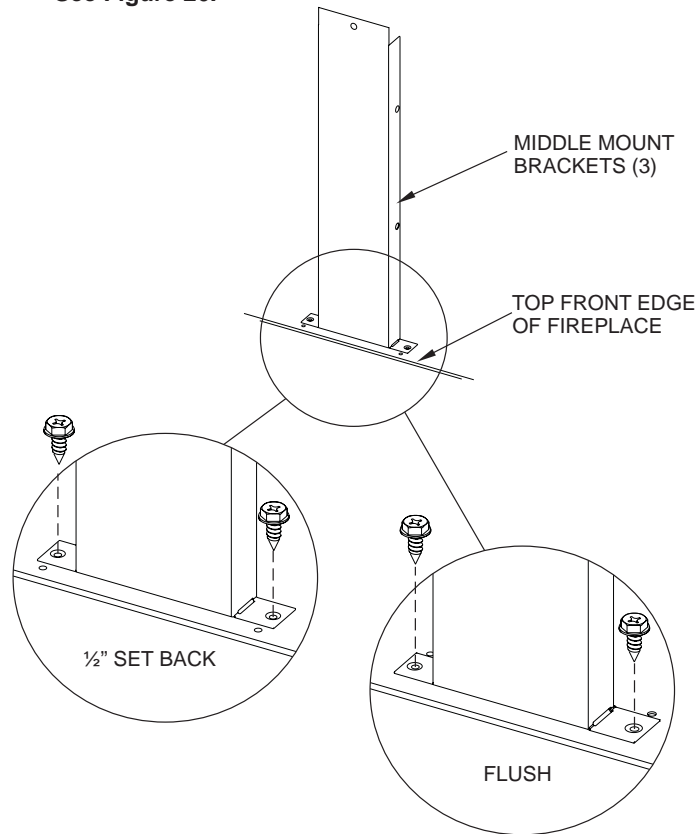

Figure 26
6. Attach three middle mount framing brackets to the top front edge of the fireplace. These brackets support the supplied non-combustible board above the fireplace. Preset depth to suit facing material (flush or 1/2in set back depths). See Figure 26.